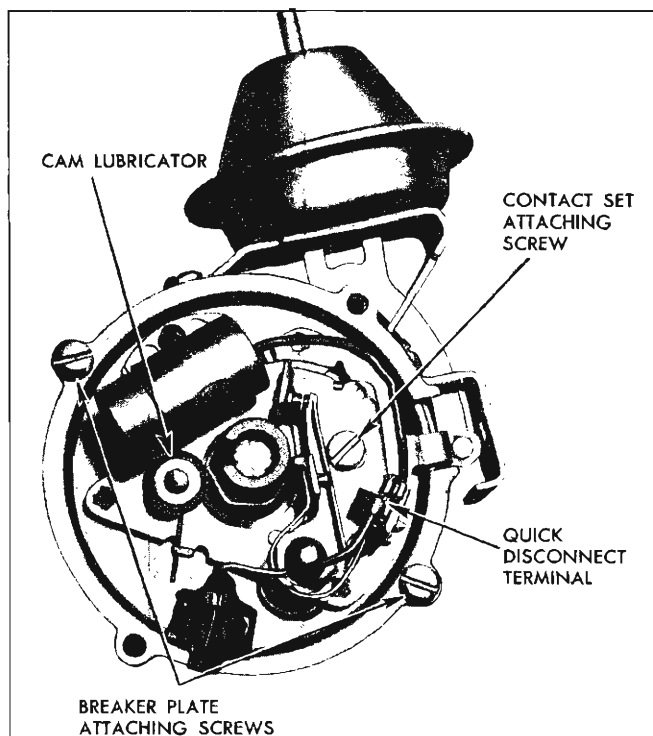

Fig. 4i—Breaker Plate and Attaching Parts
3. Pull primary and condenser lead wires from contact point quick disconnect terminal (fig. 4i).
### Four and Six Cylinder Engine Distributor (Fig. 4i)